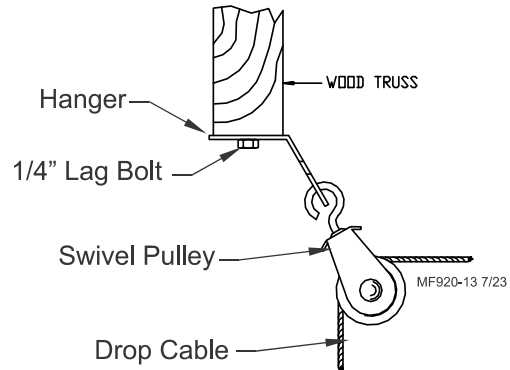

Figure 15. Pulley Installation
1. After securing the Ceiling Hook to the truss, slide the hook of a Swivel Pulley into the slot, as shown in Figure 15.